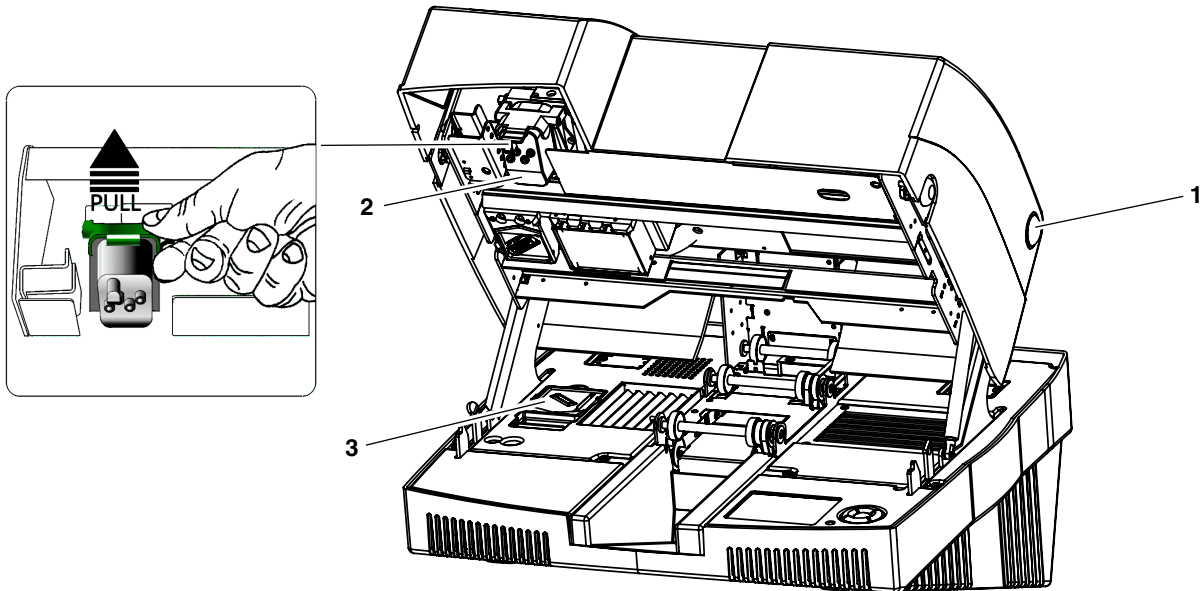

Figure 4-1 View of Fluid Cartridge (2) and Cleaning Cartridge (3)
- Press the pushbuttons on both sides of the printer (1 in Figure 4-1) and open the cover.